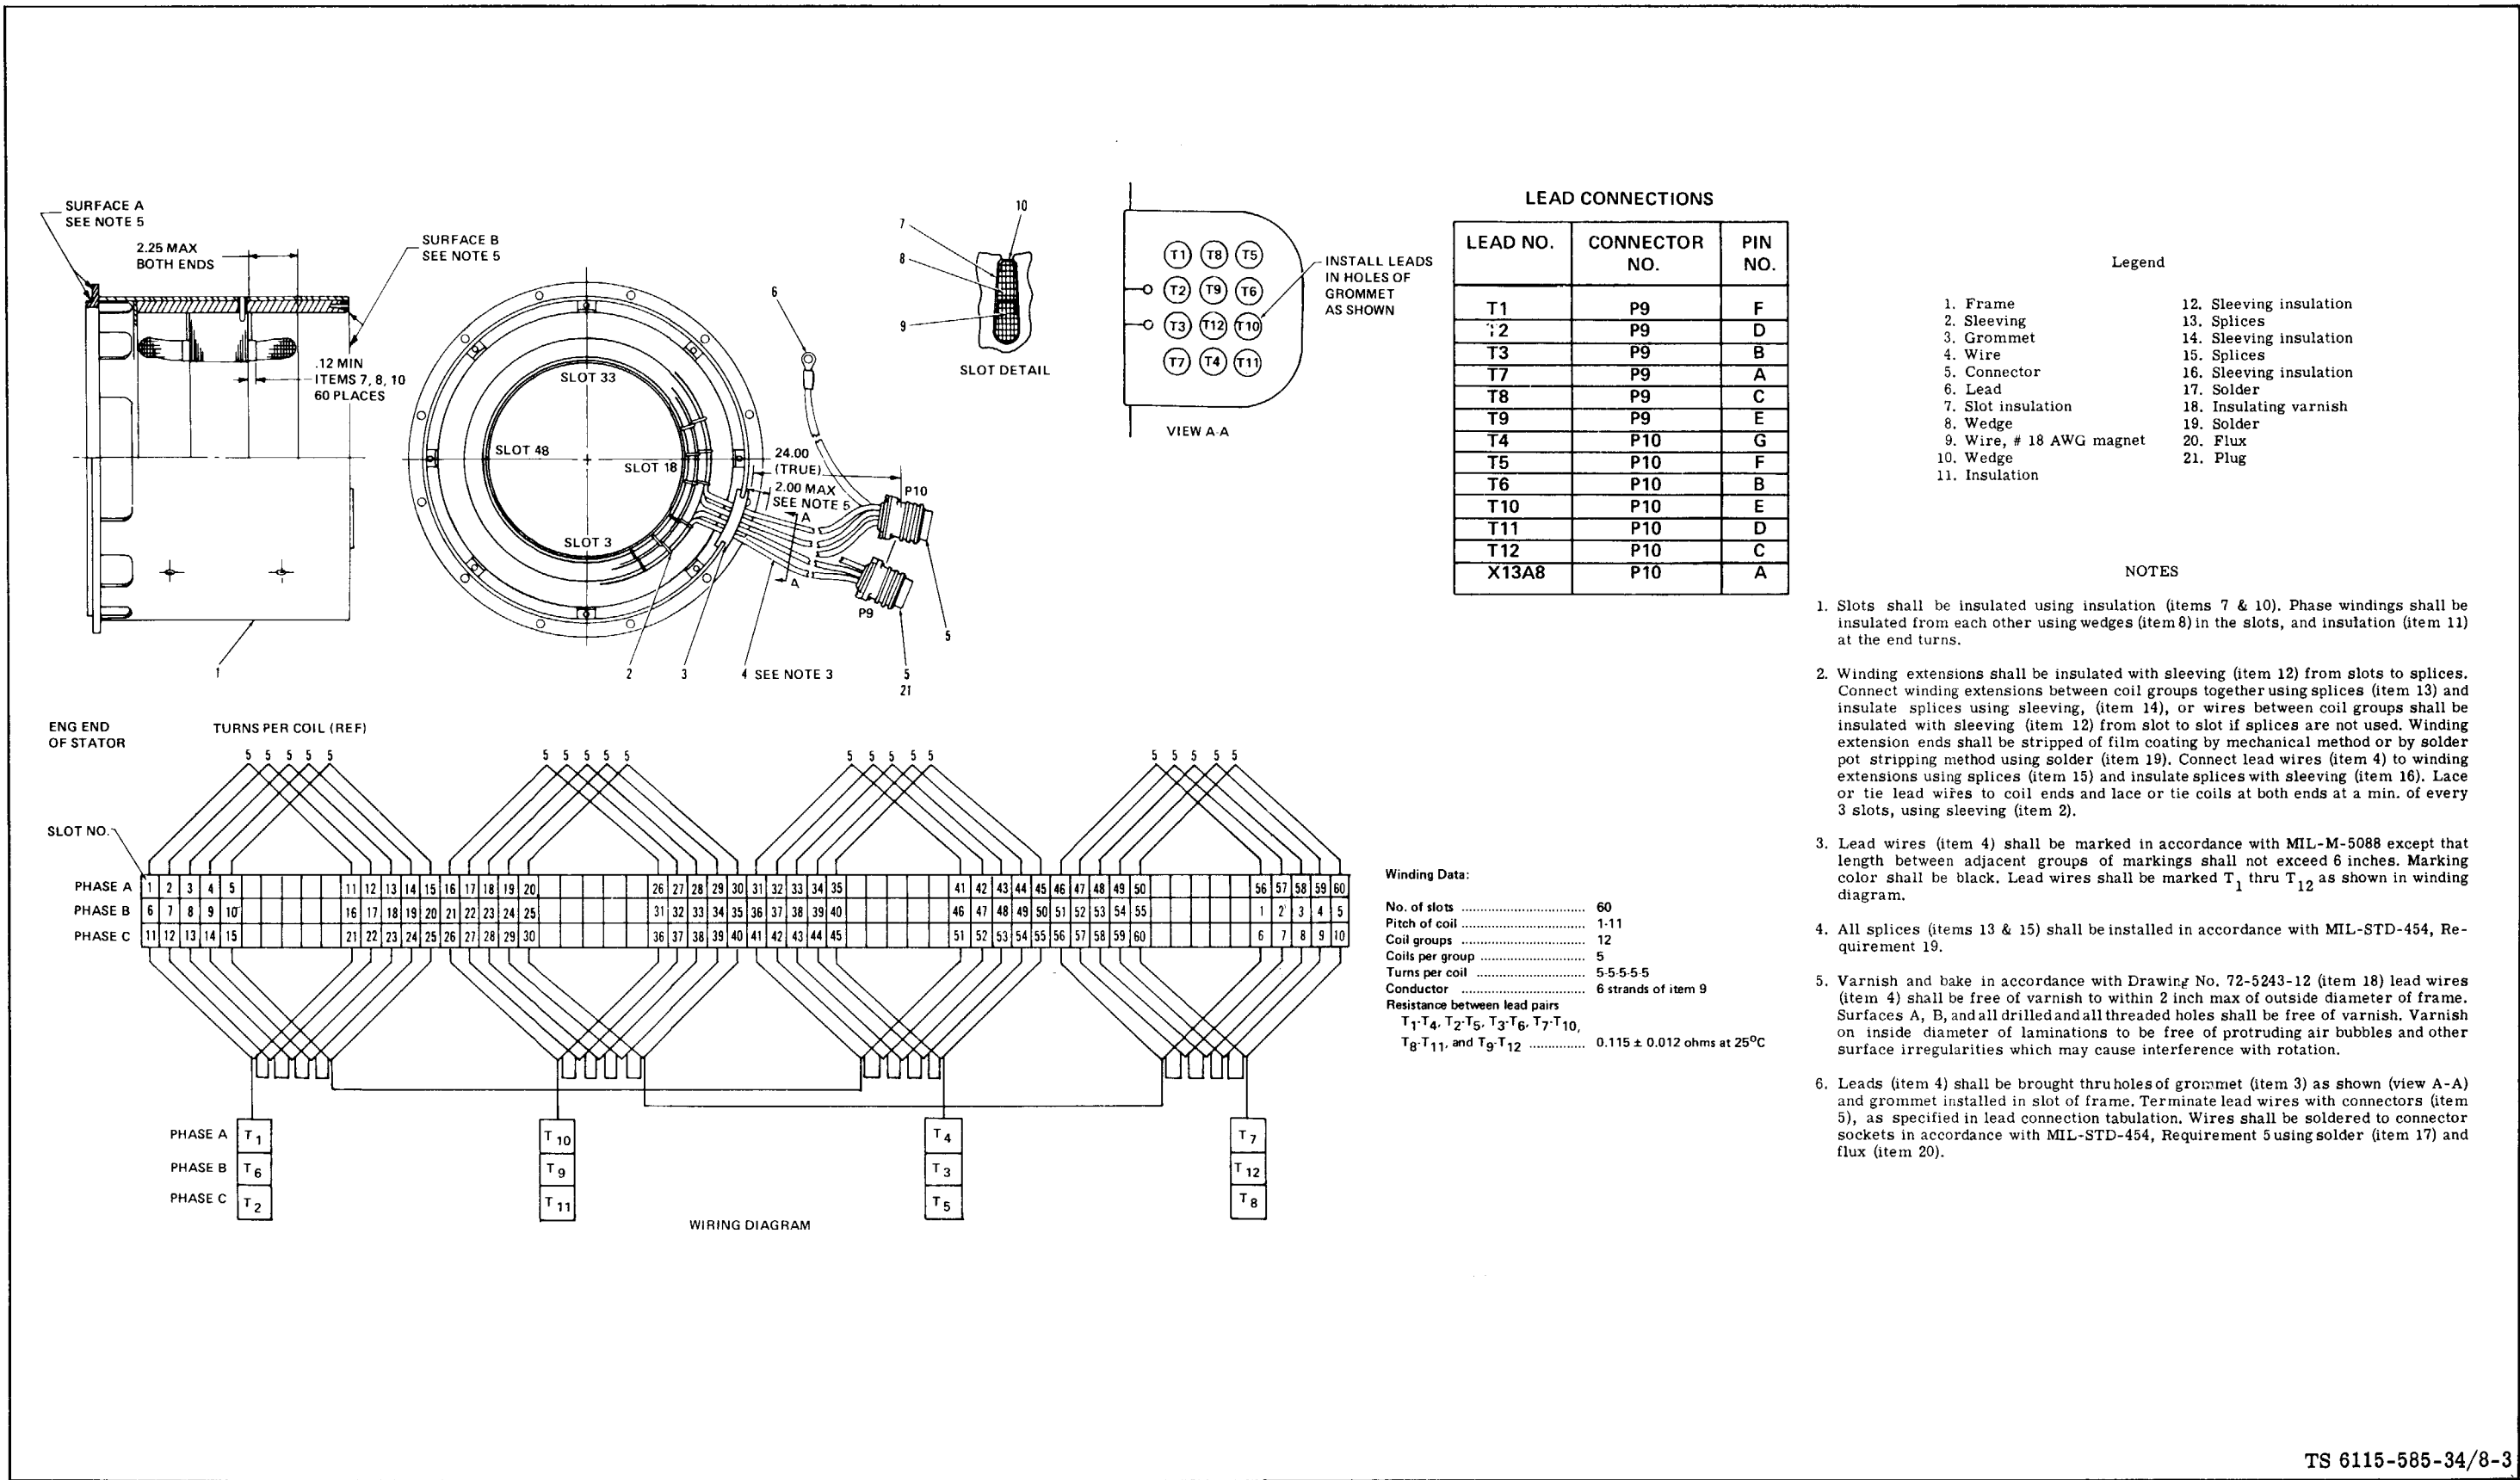

Figure 8-3. Generator Frame Assembly Winding Data (MEP-003A)
(1) High Potential Test. Test generator stator as given in paragraph 8-2e of this manual. Replace stator having faulty insulation.
(2) Winding Resistance Test. Perform winding resistance test using a Kelvin bridge. Follow the manufacturer's instructions given on the bridge. Resistance readings should be made on the pins of P9 and P10 (see figure 8-3). Resistance between lead pairs T_1-T_4 , T_2-T_5 , T_3-T_6 , T_7-T_{10} , T_8-T_{11} and T_9-T_{12} should be 0.115 ± 0.112 ohms at 77° F (25° C) for the MEP-003A. For the MEP-112A, resistance should be 0.071 ± 0.007 ohms. Refer to the table in figure 8-3 for location of the terminals.
(1) Generator frame assembly (see figure 8-3).